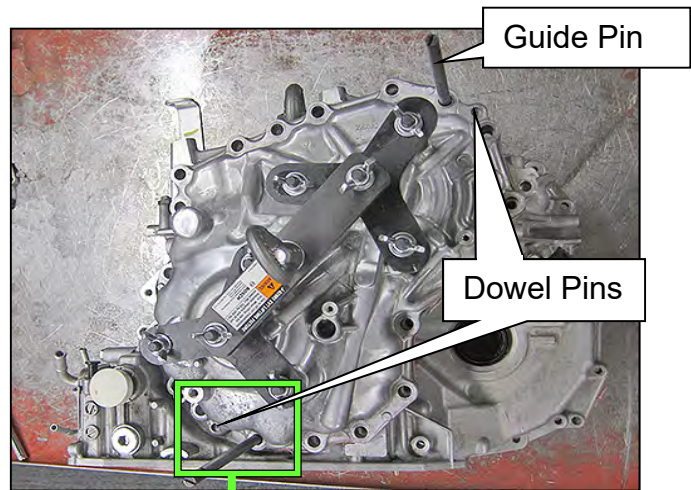

Figure 78
60. Install the two CVT Assembly Guide Pins (J-51959 - Guide Pins) as shown in Figure 78 and Figure 79.